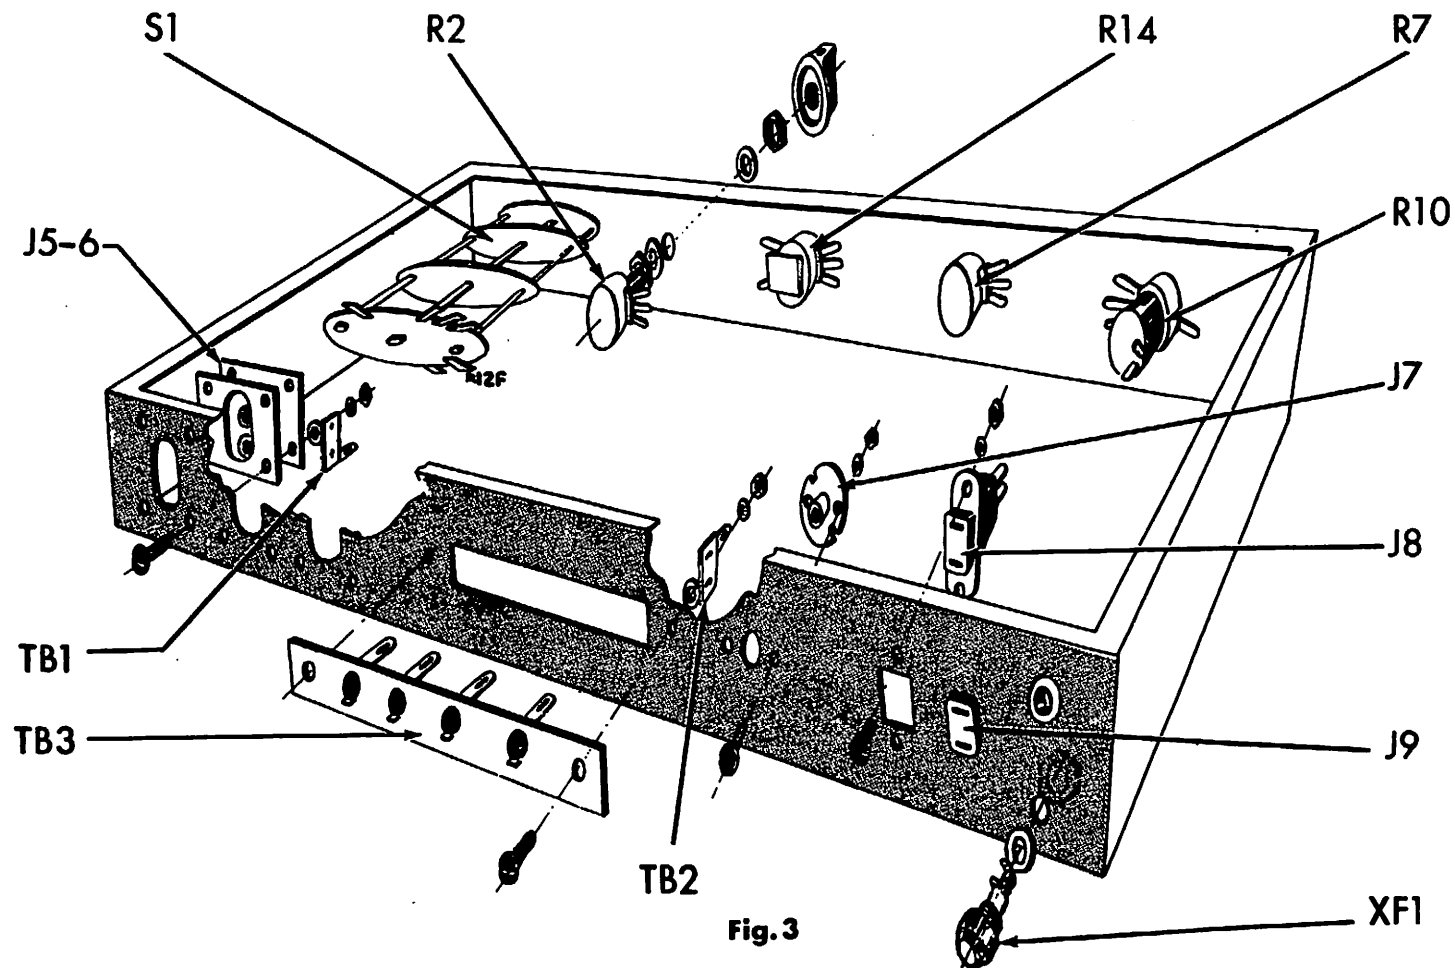
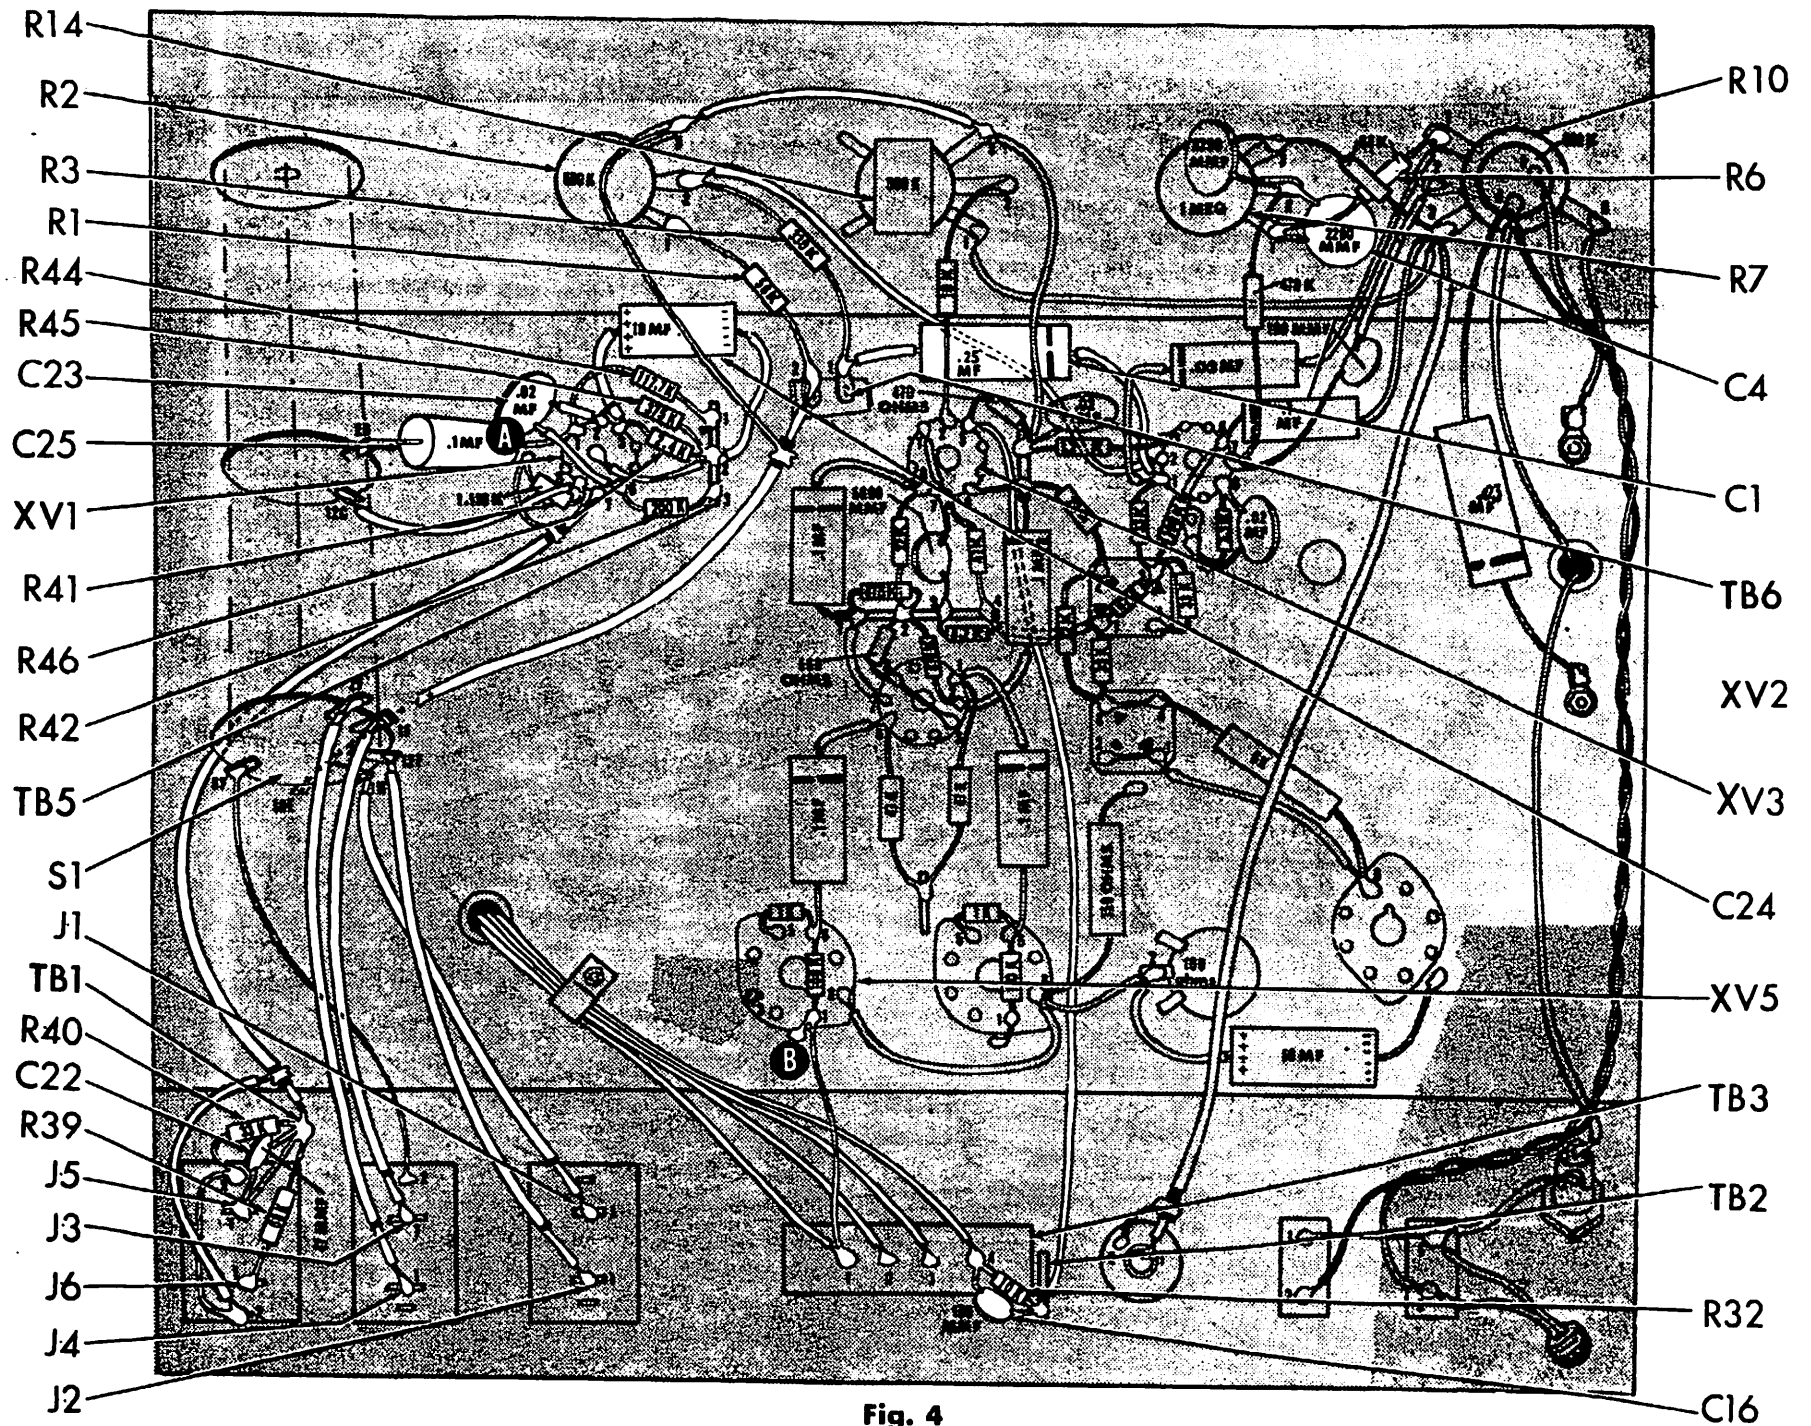

Fig. 3
Fig. 4
() Fig. 3. Mount the 500K pot., R2, the loudness control pot., R14, the 1 meg pot., R7, and the 0.5 meg center-tapped pot with switch, R10. Use two 3/8" hex nuts, one lockwasher and one flat washer on each control.
() Fig. 3. Mount the convenience outlets, J8 and J9, as shown. Use two #6-32 screws, two #6 hex nuts, and two #6 lockwasher on each outlet.
() Fig. 3. Mount the single input jack, J7, as shown. Use two #6-32 screws, two #6 hex nuts, and two #6 lockwashers.
() Fig. 3. Mount the terminal board, TB3, as shown. Use two #6-32 screws, two #6 hex nuts, and two #6 lockwashers. Mount a one post right terminal
() Fig. 3. Mount the dual input jack, J5-6, as shown. Use four #6-32 screws, four #6 hex nuts, and four #6 lockwashers. Use an insulating bakelite between the dual jack and the chassis. Mount a one post left terminal strip, TB1, under one lockwasher as shown.
() Fig. 3. Mount two dual input jacks, J1-2, and J3-4. Use four #6-32 screws, four #6 hex nuts and four #6 lockwashers with each. Do not use any insulating bakelite or terminal strips (Fig. 4).
() Fig. 3. Mount the fuseholder, XF1, as shown.
- () Fig. 4. Connect a 33K 20% resistor, R40, from J5-2 (C) to TB1 (C).
- () Fig. 4. Connect a 2" black lead from J5-2 (S) to J6-2 (C).
- () Fig. 4. Connect a 47mmf capacitor, C22, from J5-1 (C) to TB1 (C).
- () Fig. 4. Connect a piece of bare wire from J5-1 (S) to TB1 (C).
- () Fig. 4. Connect a 68K 20% resistor, R39, from J6-1 (S) to TB1 (C).
- () Fig. 4. Cut a 7" piece of shielded cable. On both ends, the outer insulation is stripped back 1", the braided shield is stripped back 3/4" and the inner insulation is stripped back 3/8". Wrap one turn of a 3" piece of bare wire around each end of the braided shield and solder. Connect the inner lead of one end to TB1 (S), and the inner lead of the other end to XV1-7 (S). Connect the bare wire at one end (covered with spaghetti) to J6-2 (S), and the other bare wire to ground lug "A" (C).
- () Fig. 4. Mount the switch, S1, as shown. Use two 3/8" nuts, one 3/8" lockwasher and one 3/8" flatwasher (Fig. 3).
- () Fig. 4. Connect the bare wire from S1-8F to J3-2 (S).
- () Fig. 4. Connect the four ends "A" of the shielded cables from S1 as follows:
- () Fig. 4. Connect the black lead from the output transformer, T2, to TB3-1 (C).
- () Fig. 4. Connect the slate lead from T2 to TB3-2 (S).
- () Fig. 4. Connect the green lead from T2 to TB3-3 (S).
- () Fig. 4. Connect the yellow lead from T2 to TB3-4 (C).
- () Fig. 4. Connect one end of a bare wire to TB3-1 (S). Pass the other end thru XV5-1 (C) and connect to ground lug "B" (S) on XV5.
- () Fig. 4. Connect a 10K resistor, R32 and a 100mmf capacitor, C16, from TB3-4 (S) to TB2 (C).
- () Fig. 4. Connect an 10" black lead from TB2 (S) to XV8-3 (C). Run the lead along the chassis as shown.
- () Fig. 4. Connect a 1.138K resistor, R41, from XV1-8 (C) to ground lug "A" (S).
- () Fig. 4. Connect the blue lead from S1-12C to XV1-8 (S).
- () Fig. 4. Run the free end of C25 under R41 and connect to XV1-1 (C). The capacitor should be perpendicular to the chassis. Use spaghetti.
- () Fig. 4. Connect a 117.7K resistor, R44, from XV1-1 (S) to TB5-1 (S).
- () Fig. 4. Connect a 375K resistor, R45, from XV1-2 (C) to TB5-2 (C).
- () Fig. 4. Connect a 200K resistor, R42, from XV1-6 (C) to TB5-3 (S).
- () Fig. 4. Connect a .02mfd GMV capacitor, C23, from XV1-6 (S) to XV1-2 (S). Use spaghetti.